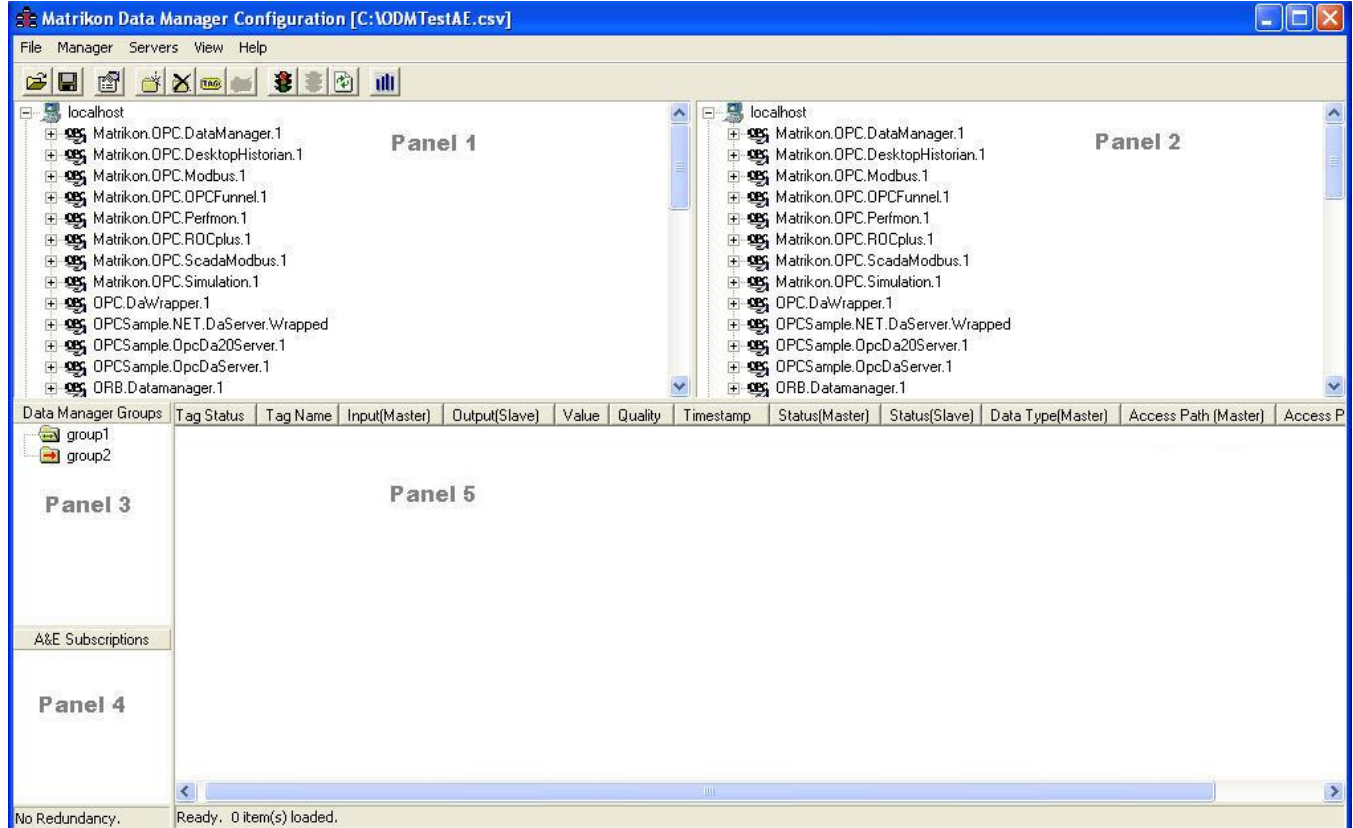

Figure 15 - MatrikonOPC Data Manager Configuration Tool
4. Double-click your mouse on this icon to open the **MatrikonOPC Data Manager Configuration Tool** (Figure 15).
The following sections describe how to use the **MatrikonOPC Data Manager Configuration Tool** to create and configure MatrikonOPC Data Manager points. After start-up, the **Configuration Tool** displays the main screen as shown in Figure 15.
The main screen consists of five panels (numbered 1 through 5 and labelled accordingly in Figure 15):